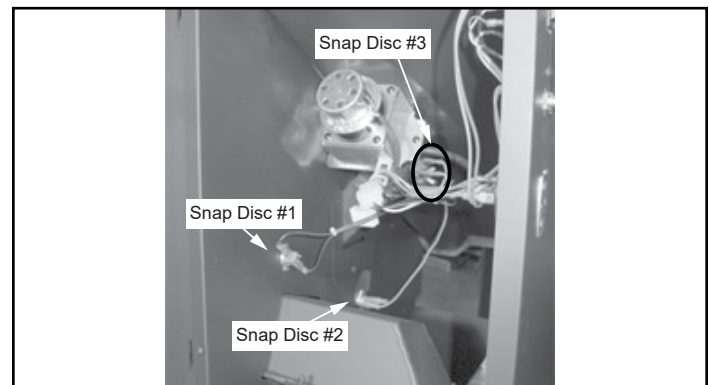

Figure 25.2
3. Snap disc #1 is located on the convection plenum below the feed motor (**Figure 25.2**).
3. Snap disc #2 is located on the convection plenum in the center of the appliance above the convection blower (**Figure 25.2**).
3. Snap disc #3 is located on the bracket on the feed tube near the feed motor (**Figure 25.2**).